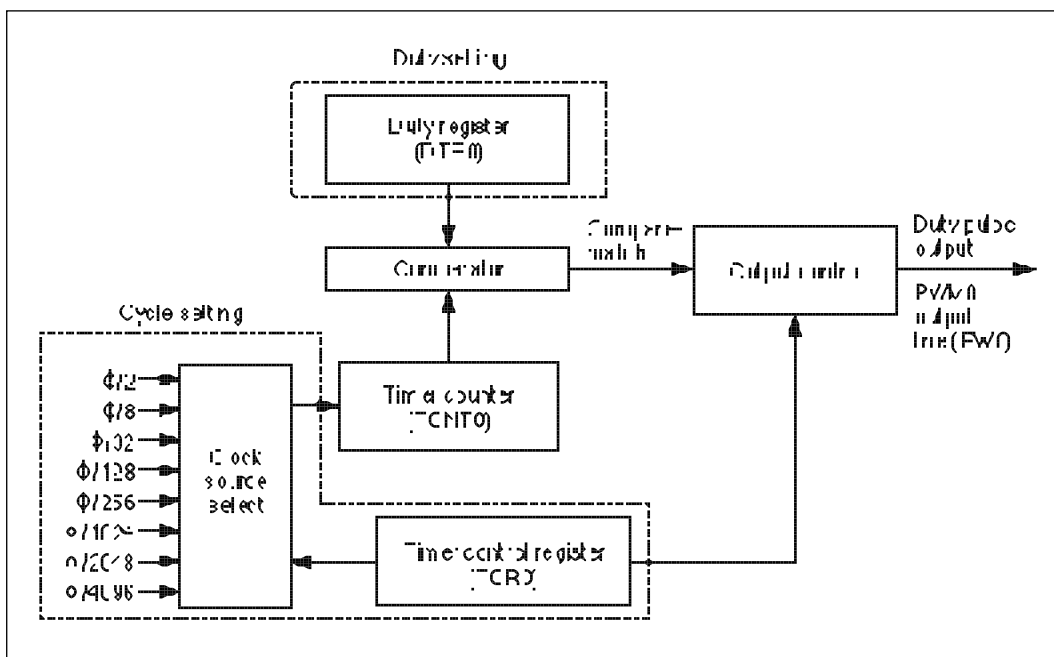

Figure 2 PWM Timer Block Diagram
1. Figure 2 shows a block diagram of the PWM timer used by this sample task. The PWM timer has the following functions:
This task uses the preceding functions for duty pulse output as shown in figure 2.